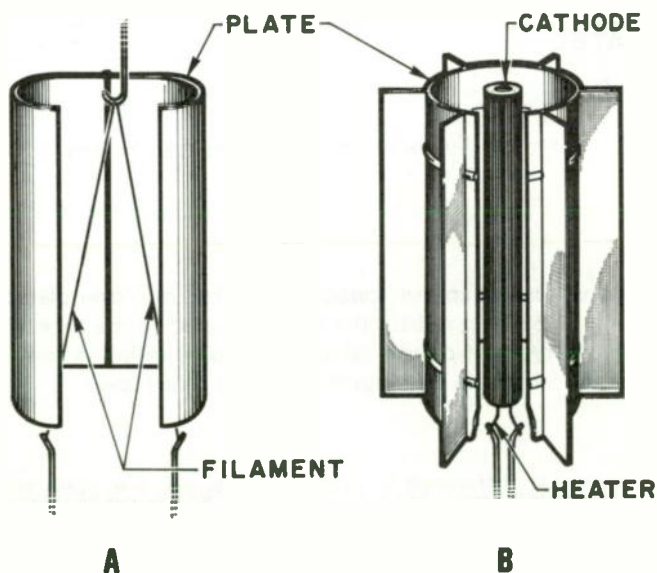

Figure 15 — Typical construction of directly and indirectly heated diodes.
**Design** The vacuum tube diode consists of two electrodes or elements called the cathode and plate. The cathode is always placed in the center of the tube, and the plate is positioned around it (Fig. 15). Figure 15A illustrates a diode with a directly heated cathode, and Figure 15B illustrates a diode with an indirectly heated cathode. Since the function of the plate is to collect electrons, it is made of a material which does not